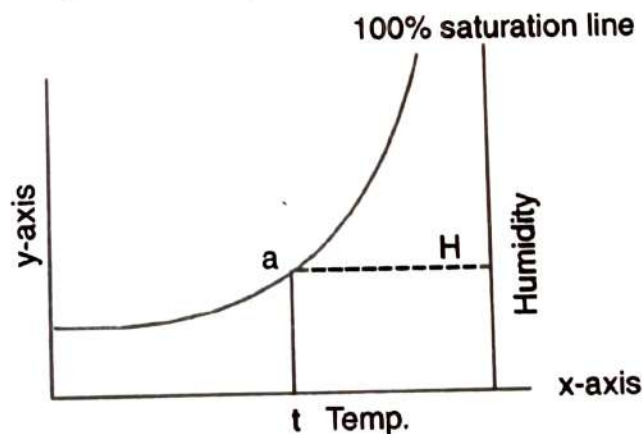

Fig. 11.2. Humidity chart (a portion).
*Use of Humidity Chart.* (i) From the dew point temperature go up on the y-axis to point (a) on the 100% saturation line. Following from this point horizontally on x-axis will give the humidity H (See Fig. 11.2).